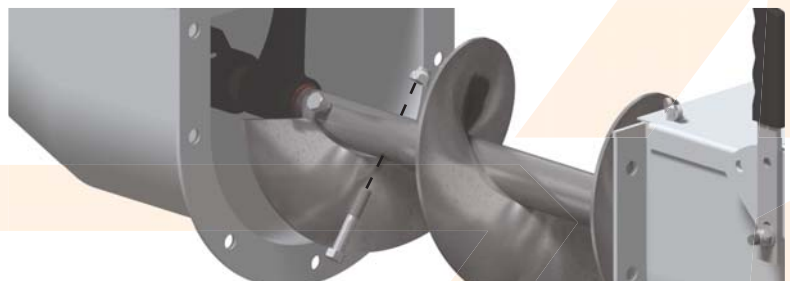

Figure 37
Using two (2) 7/16" x 2 1/2" Bolts and two (2) 7/16" Nylon Locknuts, secure the U-Trough Flighting to the Incline shaft. (see Figure 37)